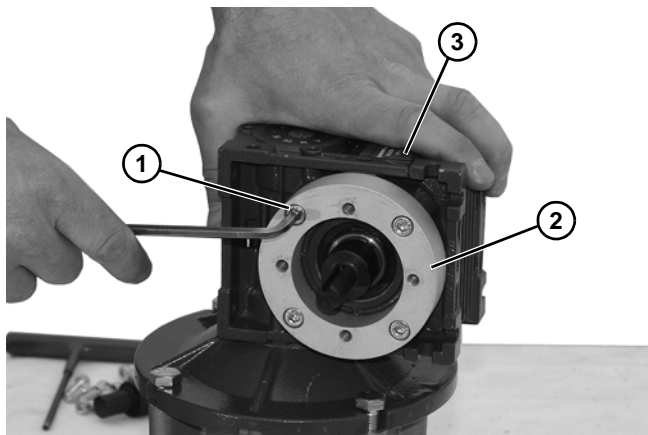

Figure 27
Step 6 and (Figure 27, item 2) is required for standard load VFD gearmotors only.
6. Loosen four (4) socket head screws (**Figure 27, item 1**) and detach spacer (**Figure 27, item 2**) from gear reducer (**Figure 27, item 3**).
9. Install spacer (Figure 27, item 2) onto gear reducer (Figure 27, item 3) with four (4) socket head screws (Figure 27, item 1).
5. Install spacer (**Figure 27, item 2**) onto gear reducer (**Figure 27, item 3**) with four (4) socket head screws (**Figure 27, item 1**).